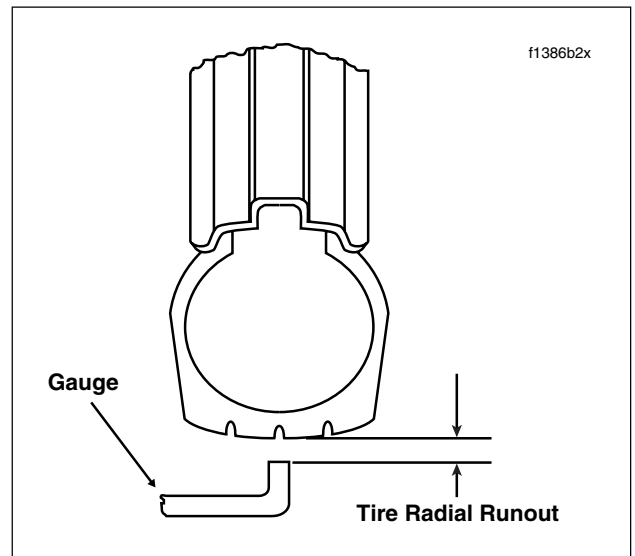

Figure 2-33. Checking Tire Radial Runout
1. Check runout by turning wheel on axle, measuring amount of radial displacement from a fixed point near the tire. See Figure 2-33.